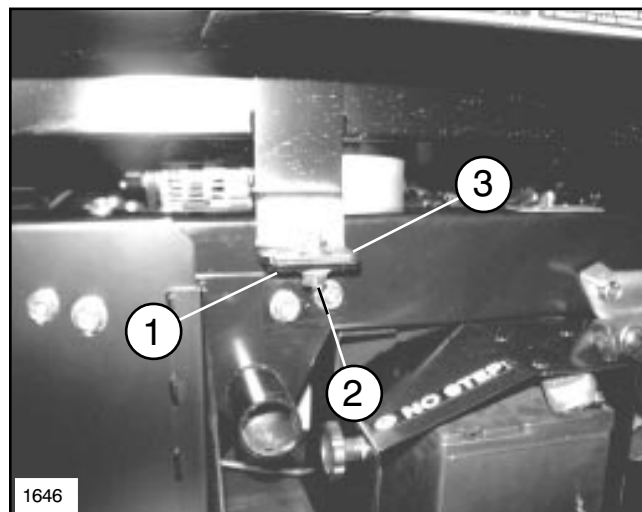

FIG. 6
5. Secure (92-2667) Attachment Mount Brackets to (99-0433) Flatbed Assembly using two 1/2"-16 x 1- 1/2" Lg. Flange Lock Hex. Hd. Cap Screws and two 1/2" Flange Lock Nuts. Make sure Attachment Mount Brackets are flush with Mounting Brackets on Flatbed Assembly. See FIG. 6. Tighten the six screws and nuts securely, at this point the Bed should be secure to the Workman® unit.